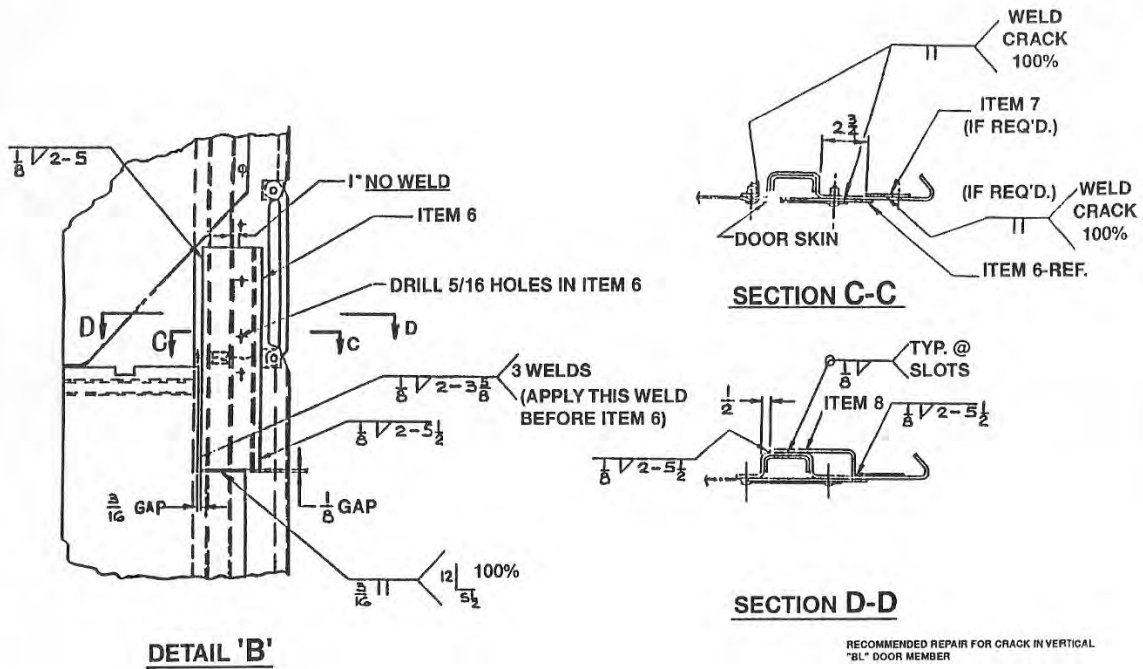

Figure 14
6. Place a ⅛" weld 2" long every 4" on the left side of the vertical member (Figure 14, Detail B).
7. Fabricate a ⅜" plate, 24" long and 7" wide, (Figure 14, Item 6). Place the bottom of this plate into the location where the lower plate was removed. Leave a ⅜" gap on the side and a ⅛" gap at the bottom. Weld the new plate to the old plate on the left side and on the bottom side using 100% solid weld (Figure 14, Detail B). Grind smooth when complete.
8. For the balance of the perimeter of Figure 14, Item 6, weld the plate to the vertical door member using a ⅛" fillet by 2" at 6" centers. No weld should be placed within 1" of the vertical member radius. (Figure 14, Detail B).
9. Use Item 6 as a backup plate and grind out the crack on the inside of the door to Item 6. Weld 100% (Figure 14, Section C-C.)
10. If the crack extends past the side of plate 'A', a backup, plate, item 7, must be applied to the inside of the door. Grind out the crack to the ¼" hole and then weld 100%. (Section C-C)
11. Drill ⅝" holes through Item 6 at each location a Huck bolt was removed from (Figure 14, Detail B).
14. Clamp this plate to the inside of the door vertical member. (Ensure that all Hucks are applied before applying plate 'B'). Apply this plate, centered vertically over the crack similar to the application of plate 'A'. Weld plate 'B' (⅛" fillet weld around the slots) and ⅛" to 2" at 6" on both sides (Refer to Figure 14, Section D-D).